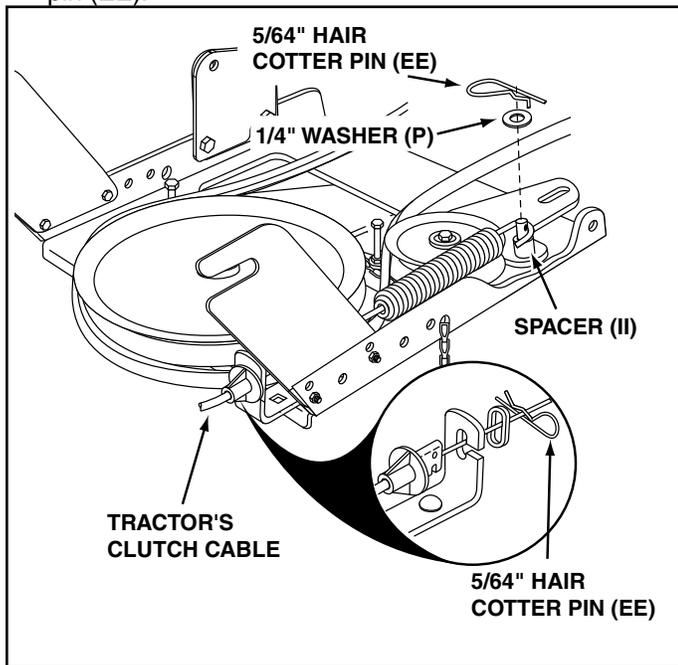

FIGURE 38
STEP 38: (SEE FIGURE 38)
- Attach the tractor's clutch cable to the cable bracket. Secure the cable housing guide (groove down) to the cable bracket using the original collar and a 5/64" hair cotter pin (EE).
- Place a spacer (II) on the welded pin on the idler arm. Hook the end of the clutch spring over the pin and secure it with a 1/4" washer (P) and a 5/64" hair cotter pin (EE).